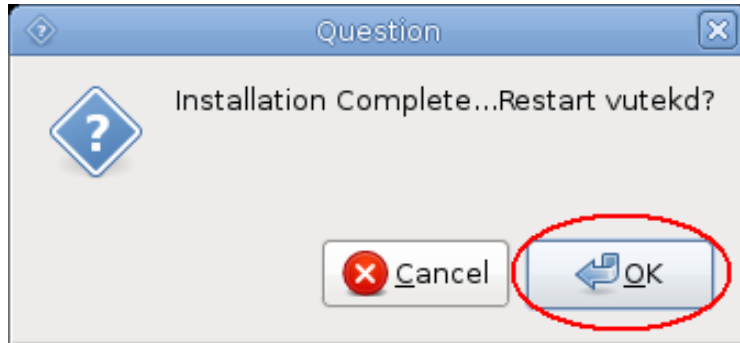

Figure 40: Restart vutekd dialog box
8. To restart VUTEk software manually, double-click on **VUTEkd** icon on desktop. A confirmation dialog opens, shown in **Figure 40**. Click **OK**. VUTEk system software should restart within a minute or two.